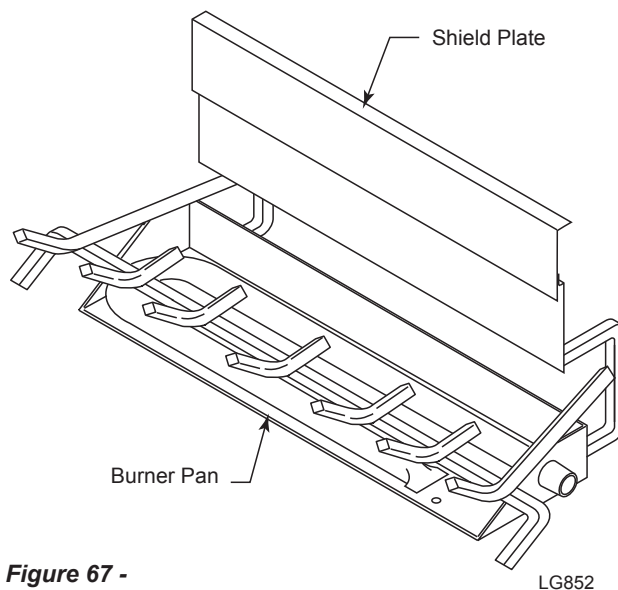

**Figure 67 -
1. Slide shield plate behind burner pan. *Figure 67*